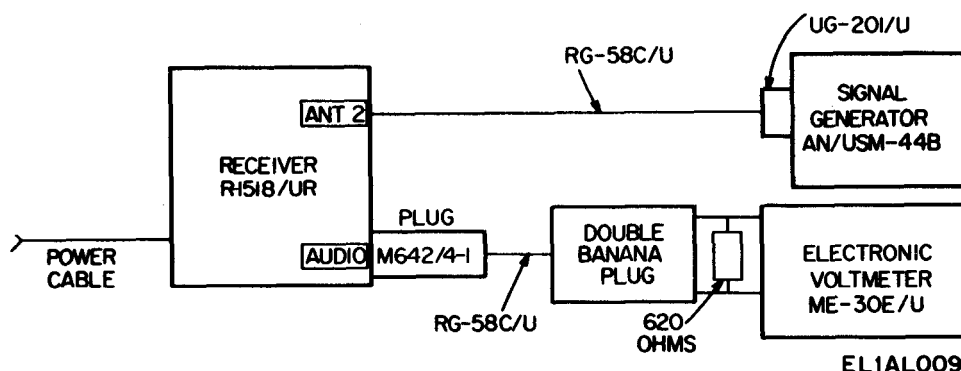

Figure 6-1. Panel meter test connections.
(1) Accomplish the preliminary test setup (para 6-12) except, omit *b* and *d* above.
(2) Connect the test equipment as shown in figure 6-1.